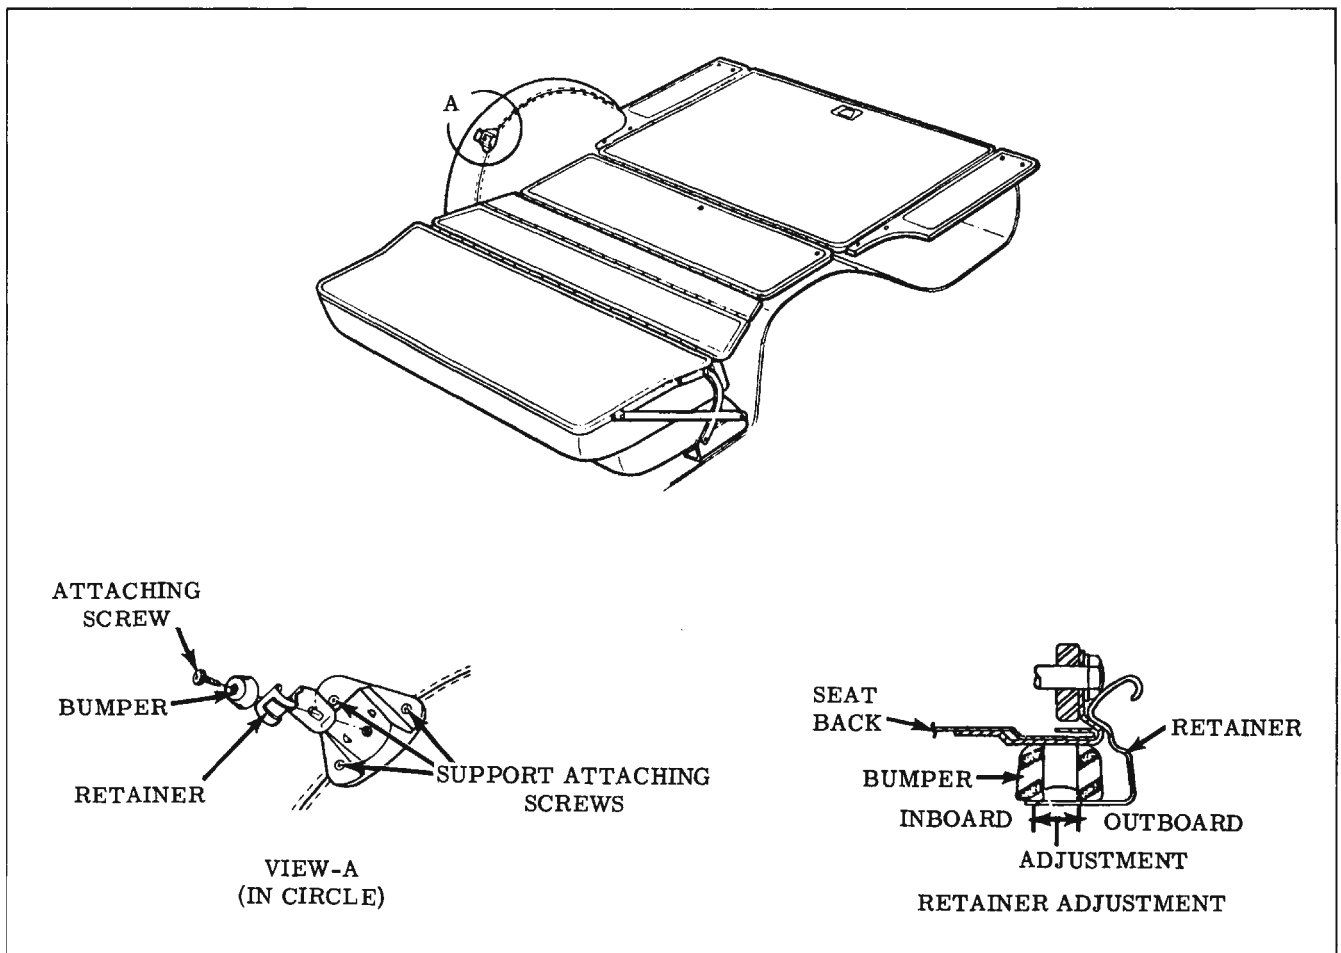

Fig. 16-326 Folding Rear Seat Back Bumper, Retainer and Support
- With folding rear seat back in down position, remove screw shown in View "A", Fig. 16-326, and remove bumper and retainer from wheelhouse support.
- Remove 3 screws shown in View "A", Fig. 16-326 and remove support from wheelhouse assembly.